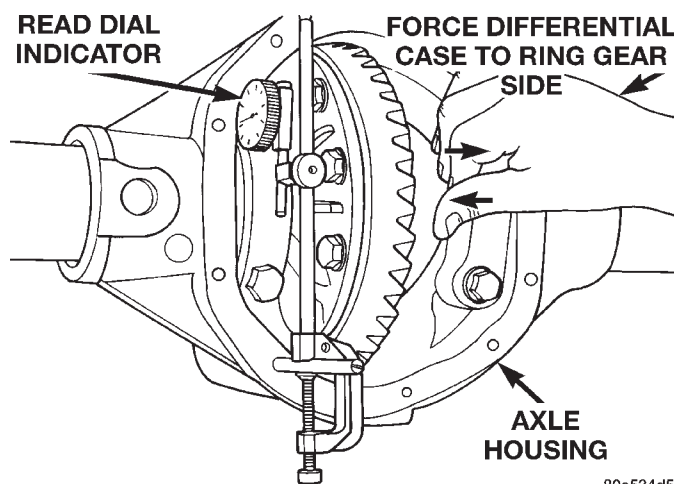

Fig. 77 Hold Differential Case and Read Dial Indicator
(12) Push and hold differential case to ring gear side of the axle housing (Fig. 77).
(13) Record dial indicator reading (Fig. 77).
(14) Add 0.015 in. (0.38 mm) to the zero end play total. This new total represents the thickness of shims to compress, or preload the new bearings when the differential is installed.
(15) Rotate dial indicator out of the way on the guide stud.
(16) Remove differential case and dummy bearings from axle housing.